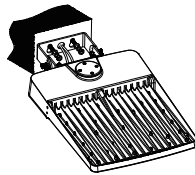

Figure 4-2
Step2: Fix the fixture on the expansion screws, Figure 4-2;